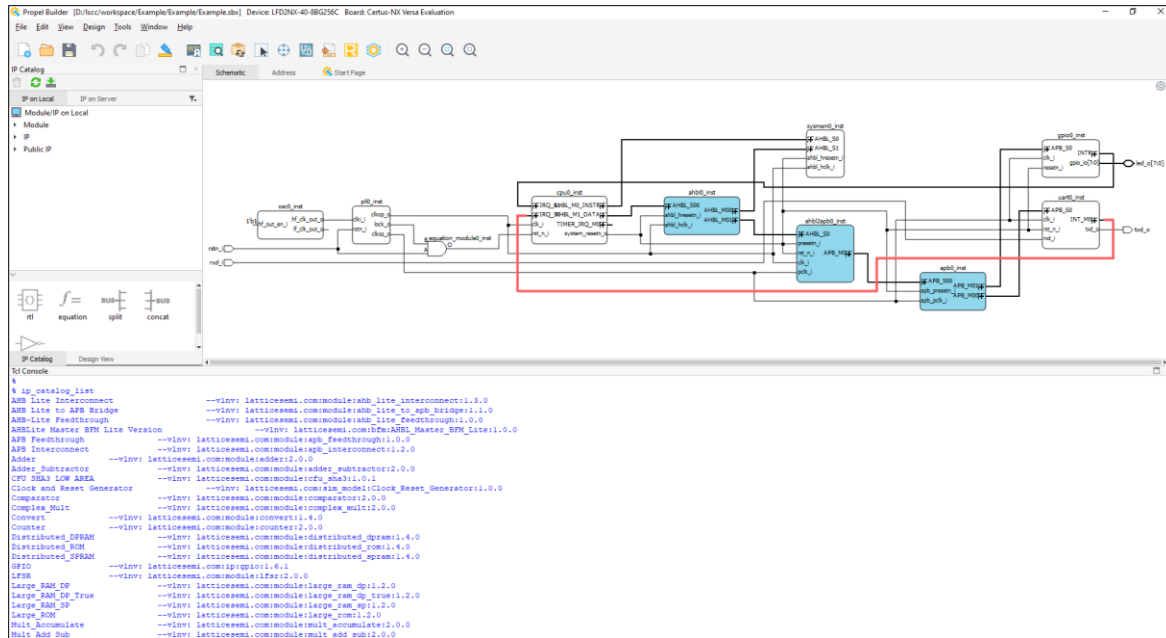

Figure 5.3. IP Catalog List Command
2. Or you can check all IPs by typing the following command in the TCL console (Figure 5.3):